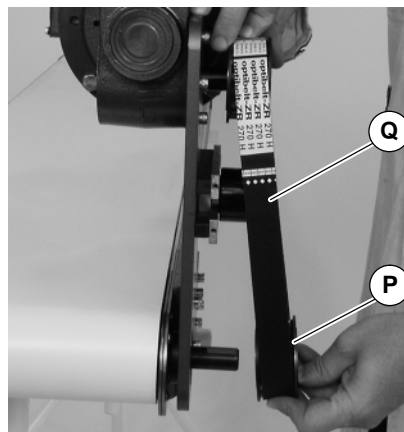

Figure 16
- c. Remove pulley (P of Figure 16) and timing belt (Q).